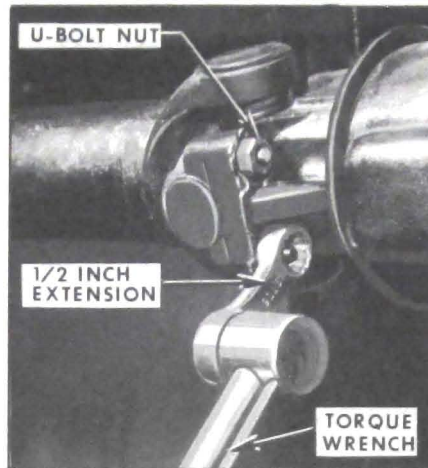

Figure 6-71—Using Extension to Torque U-Bolt Nuts
6. Install U-bolt clamps and nuts. Draw nuts up evenly and torque to 13 ft. lbs. using a 1/2 inch extension such as J-9113. See Figure 6-71. CAUTION: Over-